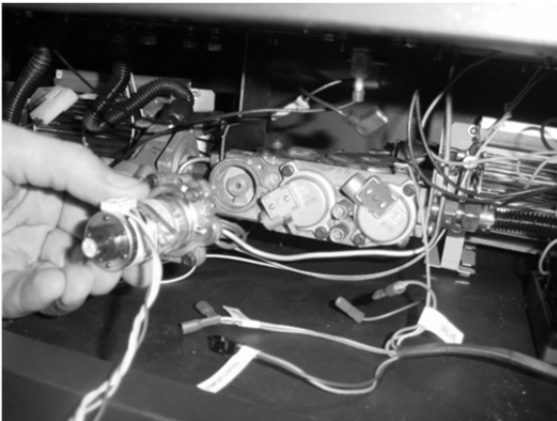
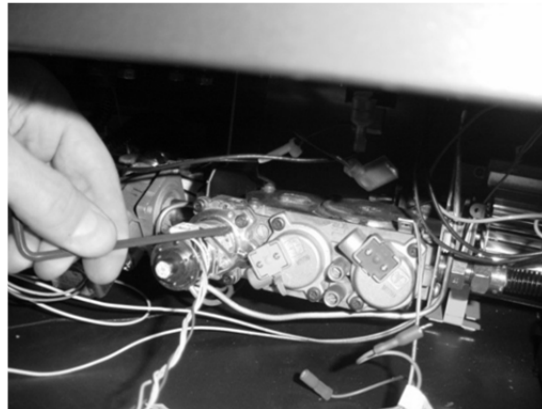

Figure 1
Figure 2
- (b) Remove and discard the Natural Gas (NG) orifice. Place the LP orifice in the pilot assembly then replace the pilot hood, tightening the pilot hood until it is snug (do not over-tighten).
5. Remove the control panel to access the gas control panel. The stepper motor (adjustable regulator) has an installation sheet included with it – make sure to follow all of the directions. Place the stepper motor on the gas control valve (see Figure 1) – **MAKE SURE IT IS CORRECTLY ORIENTED.** Secure using the screws included with the motor (see Figure 2) – tighten to 25 Lb-inches. Leak test this area after installation to verify proper installation.